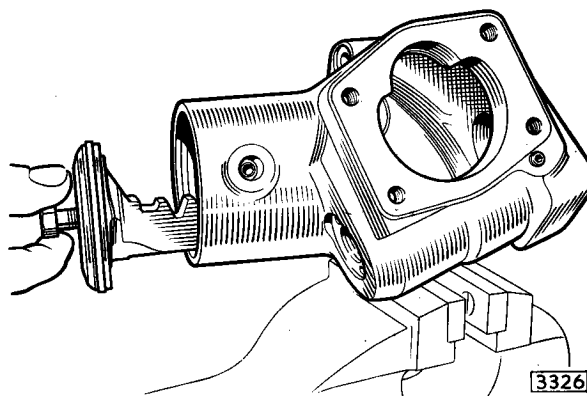

Fig. 15. Withdrawing the piston and rack assembly.
Screw a long $\frac{1}{2}$ " UNC bolt, or extractor into the tapped hole in centre of piston and rack (15) and withdraw assembly through open cylinder end (See Fig.15).